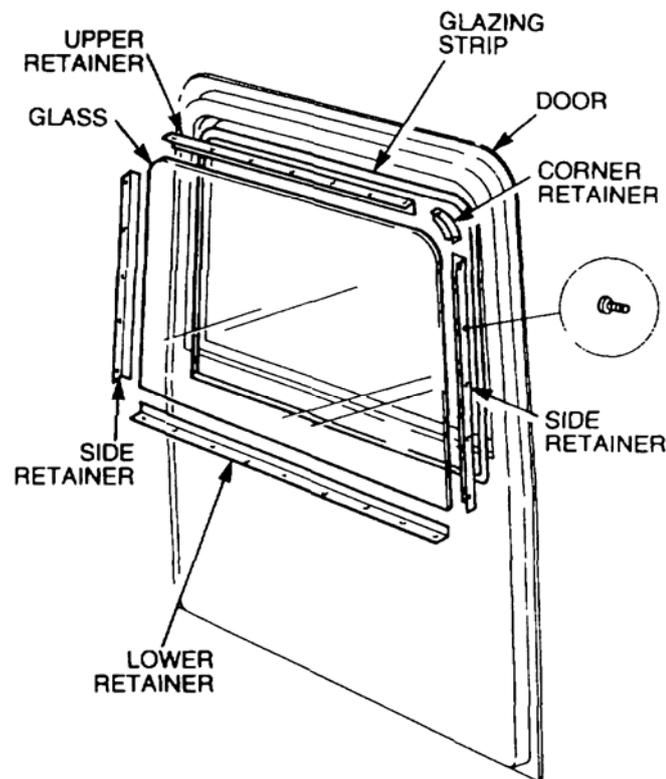

Figure 33 Rear Door Glass Removal
- Remove the retainer (refer Figure 33).
- Install a new glazing strip (refer Figure 33) on the inside of the window.